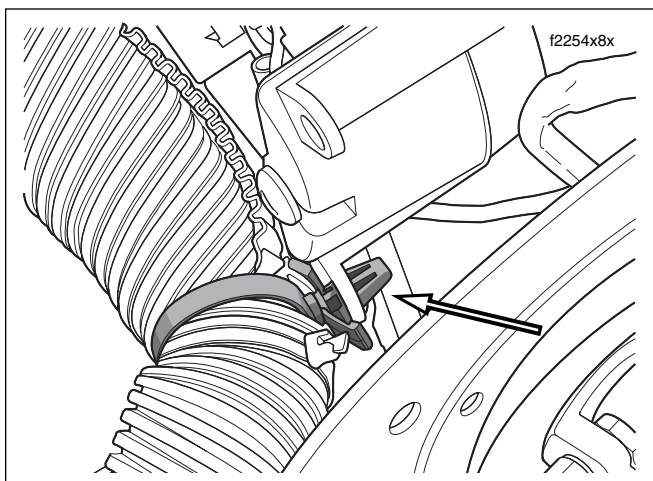

Figure 1. Remove Anchors on Interconnect Harness From Ears of Speedometer/Tachometer Brackets
3. Release anchors on convoluted tubing of interconnect harness from lower outboard ears of speedometer and tachometer brackets. See Figure 1.
2. Install anchors on convoluted tubing of interconnect harness into lower outboard ears of speedometer and tachometer brackets. See Figure 1.